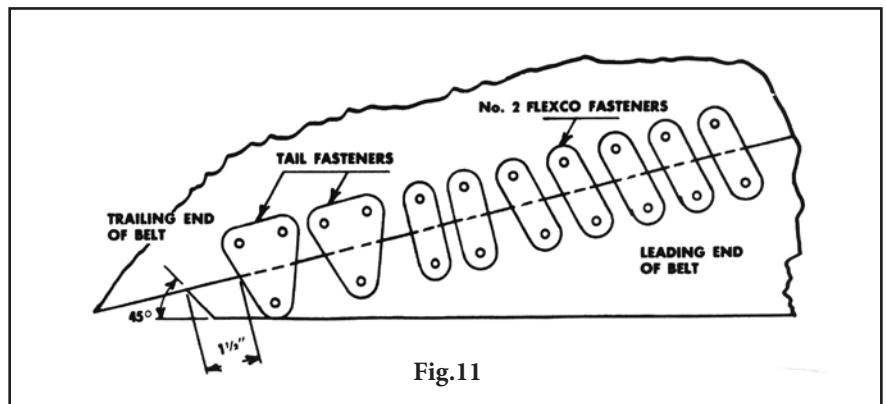

Fig.11
14. Cut sharp trailing tip on leading end of belt 1-1/2" (38 mm) from last tail fastener and at a 45° angle as shown in Fig. 11.